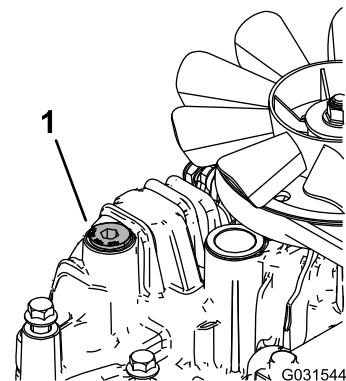

Figure 72
- 11. Loosen the vent plug in each transmission so that it is loose and wobbles (Figure 72).